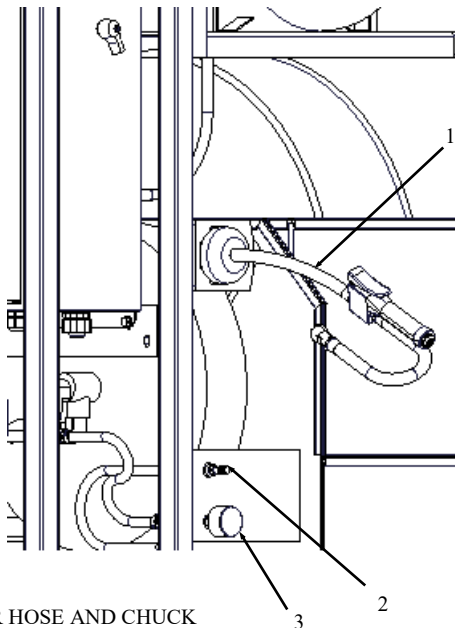

Figure 4-5. Pneumatic Air Tank
- c. Remove cap from Schrader valve (2) at Tire Service Panel. See Figure 4-5.
- f. Tank is full when gage (3) reads 125psi or pressure relief valve opens. See Figure 4-5. (Pressure relief valve is located on air tank.)
- c. Located the pneumatic air chuck and hose and position them by pulling on the hose. The hose reel (1) will lock into position. See Figure 4-5.